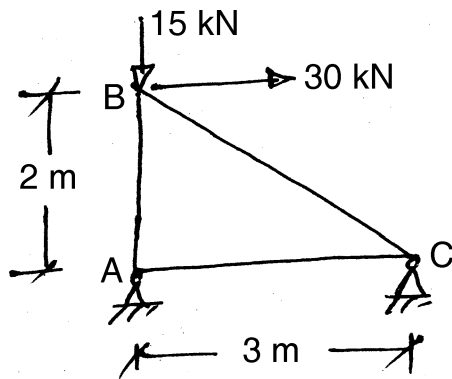

Fig. 6
6. Find forces in all members of pin jointed frame shown in Fig. 6 by member oriented stiffness method. Assume AE of all members same. 12